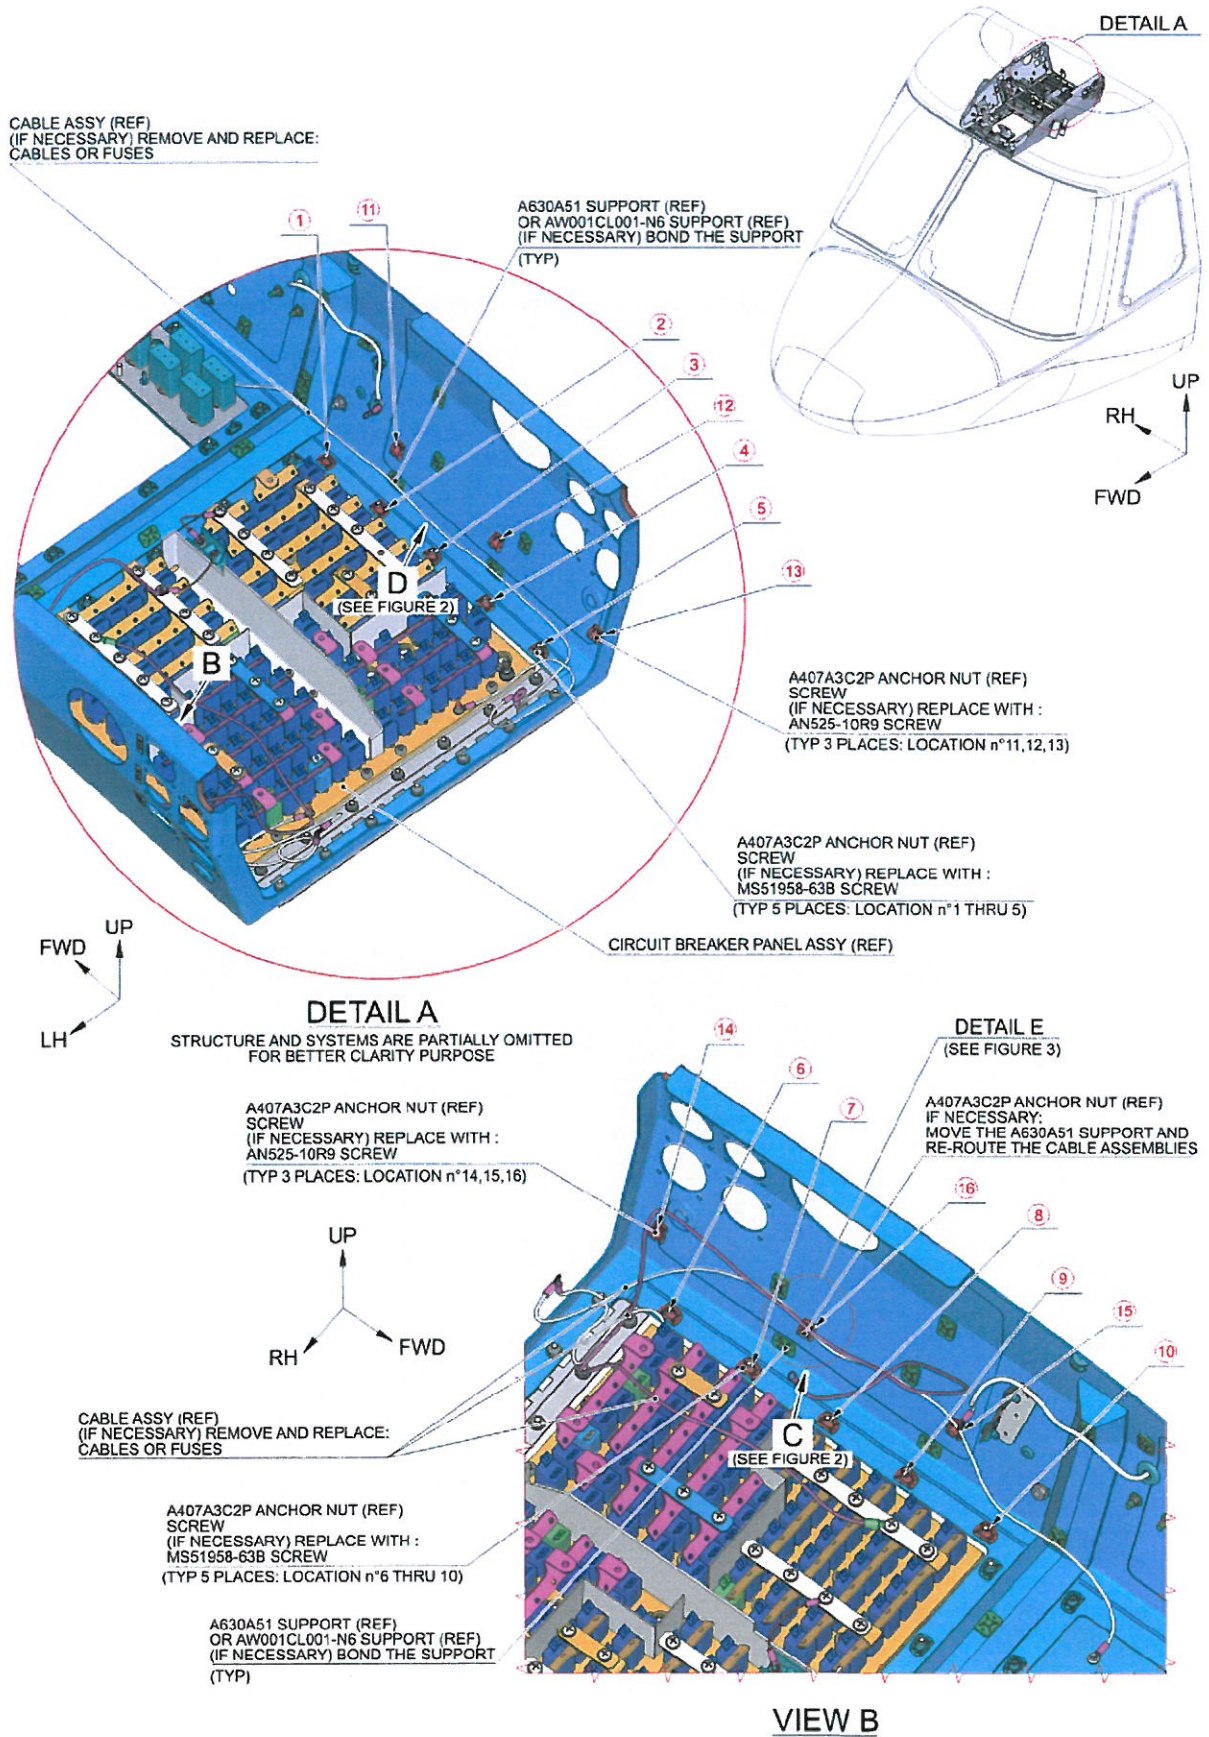

Figure 1
- 2.4 With reference to Figure 1 Detail A and View B, check for chafing damage of the cable harness and ensure that clearance exists between the cable harness and the anchor nuts P/N A407A3C2P and/or the screws at the indicated locations from n°1 thru n°16.
- 2.5 With reference to Figure 1 Detail A and View B, reroute or remove and replace the damaged cables or fuses.
- 2.6 With reference to Figure 1 View B and to Figure 3 Detail E, measure at the indicated location n°16, on the LH side, the clearance between the anchor nut P/N A407A3C2P and the cable harnesses including a check of the mutual position.
- 2.7 In accordance with the applicable steps of AMP DM 39-A-20-10-19-00A-920A-A and with reference to Figure 1 View B, move the existing support P/N A630A51 or P/N AW001CL001-N6, as applicable, and re-route the cable harnesses in order to respect the clearance of at least 10.0 mm and guarantee the installation ABOVE the anchor nut.
- 2.8 With reference to Figure 1 Detail A and View B, check that all the supports P/N A630A51 and P/N AW001CL001-N6, as applicable, on the LH and RH side are soundly bonded to the panel with no evidences of detachment or delamination.
- 2.9 With reference to Figure 1, replace the supports in the interested position according to the following procedure:
- 2.9.2 With reference to Figure 1 Detail A and View B, carefully remove the bonded plastic support P/N A630A51 and/or P/N AW001CL001-N6 with an applicable plastic spatula. Make sure that you do not cause damage to the structure during this operation.
- 2.9.6 With reference to Figure 1 Detail A and View B, install the supports P/N A630A51 and/or P/N AW001CL001-N6, as applicable, according to the following procedure:
- 2.11 With reference to Figure 1 Detail A and View B, to Figure 2 View C and View D, apply n°2 layers of the white tape P/N AW005ME04T05305 (or equivalent P/N listed in consumable list) on n°10 anchor nuts P/N A407A3C2P (n°5 on the LH side and n°5 on the RH side).
- 2.12 With reference to Figure 1 Detail A and View B, to Figure 2 View C and View D, apply n°2 layers of the white tape P/N AW005ME04T05305 (or equivalent P/N listed in consumable list) on each of the n°6 anchor nuts P/N A407A3C2P (n°3 on the LH side and n°3 on the RH side).
- 2.13 With reference to Figure 1 Detail A and View B, temporarily remove n°10 screws from their respective anchor nuts P/N A407A3C2P at the indicated locations from n°1 thru n°10.
- 2.14 In accordance with the applicable steps of AMP DM 39-A-24-91-01-00A-720A-A and with reference to Figure 1 Detail A, close the circuit breaker panel assy using the hardware removed in the previous step 2.13.
2. With reference to Figure 1 and Figure 2 gain access to the affected area and perform the inspection inside the overhead panel of the protective tape as described in the following procedure:
- 2.1 In accordance with the applicable steps of AMP DM 39-A-24-91-01-00A-520A-A and with reference to Figure 1 Detail A, open the circuit breaker panel assy without removing it.
- 2.2 With reference to Figure 1 Detail A and View B, to Figure 2 View C and View D, check for the condition of the n°2 layers of the white tape P/N AW005ME04T05305 (or equivalent P/N listed in consumable list) on n°10 anchor nuts P/N A407A3C2P (n°5 on the LH side and n°5 on the RH side).
- 2.6 With reference to Figure 1 Detail A and View B, to Figure 2 View C and View D, check for the condition of the n°2 layers of the white tape P/N AW005ME04T05305 (or equivalent P/N listed in consumable list) on each of the n°6 anchor nuts P/N A407A3C2P (n°3 on the LH side and n°3 on the RH side).
- 2.10 With reference to Figure 1 Detail A and View B, check for chafing damage of the cable harness and ensure that clearance exists between the cable harness and the anchor nuts P/N A407A3C2P and/or the screws at the indicated locations from n°1 thru n°16.
- 2.11 With reference to Figure 1 Detail A and View B, remove and replace the damaged cables or fuses.
- 2.12 In accordance with the applicable steps of AMP DM 39-A-24-91-01-00A-720A-A and with reference to Figure 1 Detail A, close the circuit breaker panel assy.
(REFER TO FIGURE 1)